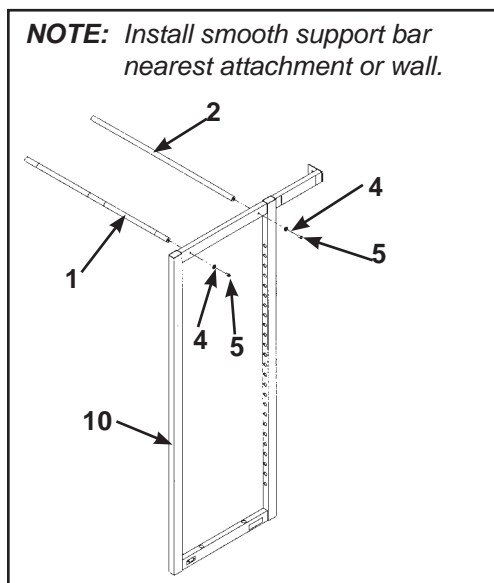

Figure 5
**4. Install upper support bars (see steps 4A - 4E and Figures 5 and 6).**
- B. Attach one end of the smooth support bar (#2) to one of the sides (#10 or #11), as shown in Figure 5 using one washer .50 (#4) and one BHSCS .50-13 x 1.00 (#5). Do not tighten hardware at this time.